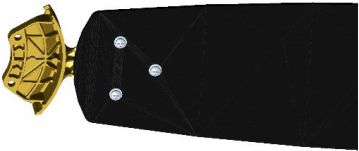

Fig 1.2
- 1.2 Fig 1.2 is the schematic diagram of the installed fan blade bracket. Repeat these steps for the remaining blades. Make sure all the screws are firmly tightened.